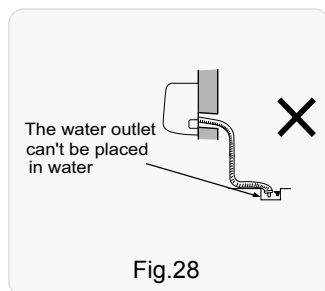

Fig.28
- The water outlet cant be placed in water in order to drain smoothly.(As show in Fig.28)